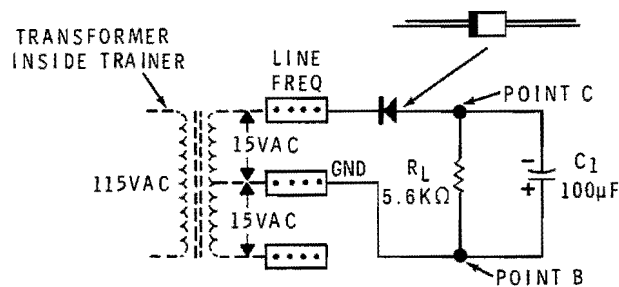

Figure 4-27
18. Turn the Trainer off. Reverse the diode and the capacitor as shown in Figure 4-27. The voltage at point C is now \_\_\_\_\_ with respect to point B.